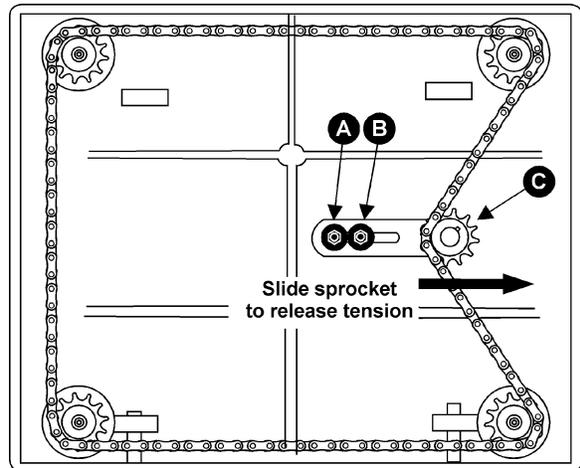

Figure 22
5. Remove bolts holding the planer to the stand. Carefully tilt planer on its side to expose underside of base (Figure 22).
6. Remove bolt (A, Figure 22) and loosen bolt (B, Figure 22) which will allow you to move the idler sprocket assembly (C, Figure 22) far enough to release tension on the chain.
9. When adjustments are correct, replace chain around corner sprocket, slide idler sprocket (C, Figure 22) back to re-tension chain, tighten bolt (B, Figure 22), and insert and tighten bolt (A, Figure 22).